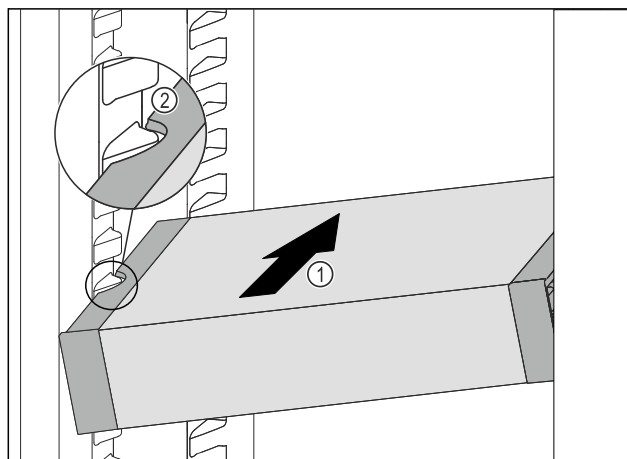

Fig. 175
- Insert the VarioSafe into the fridge section at an angle Fig. 175 (1) until the recesses in the side Fig. 175 (2) of the VarioSafe are at the level of the support rib in the fridge section.